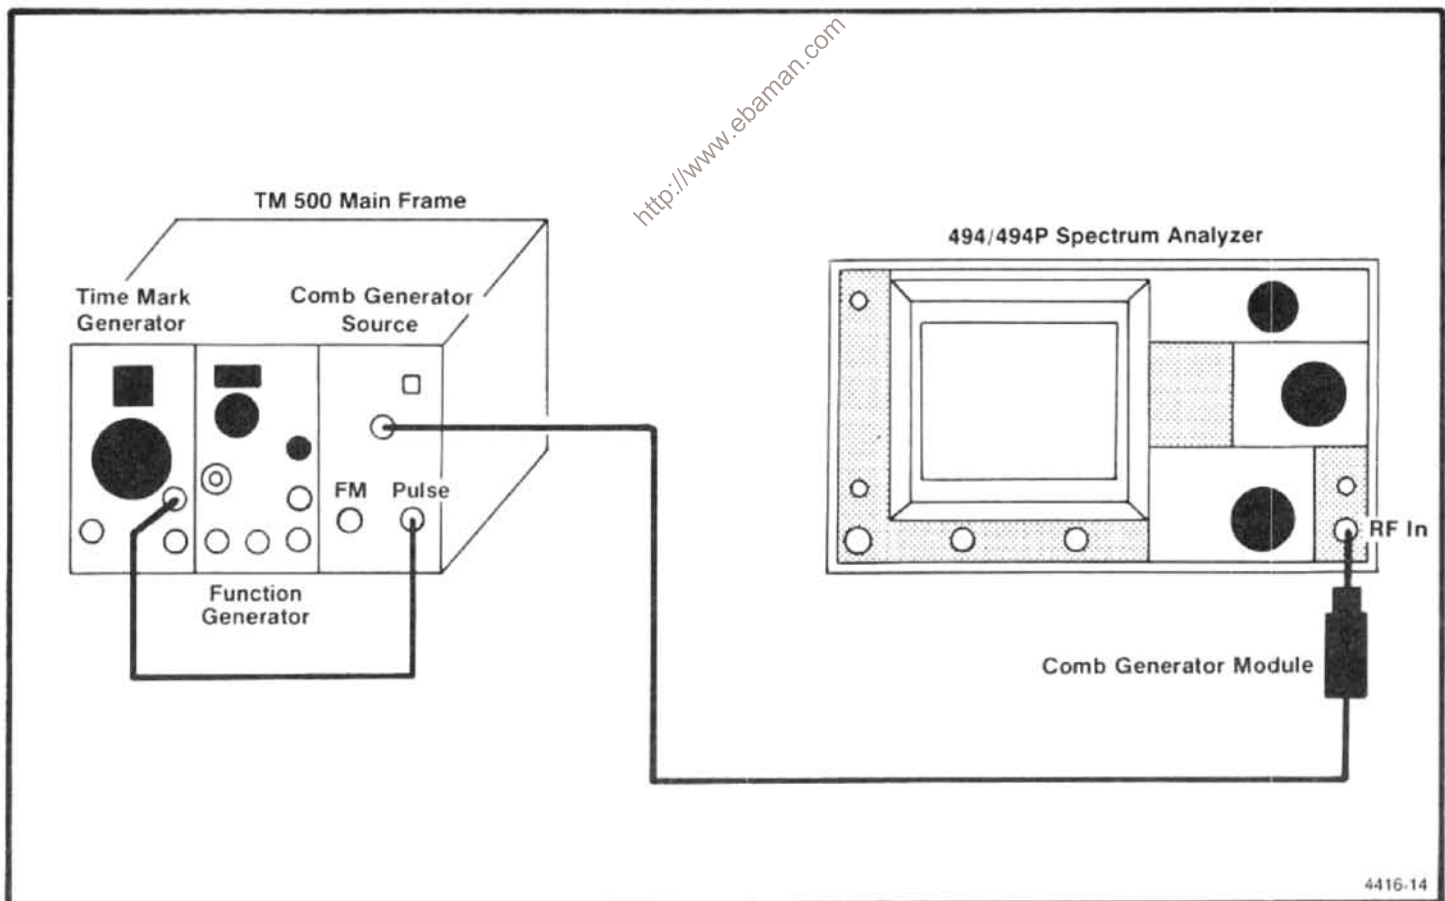

Figure 4-5. Test equipment setup for checking frequency span/div and sweep time/div accuracy.
a. Equipment setup is shown in Figure 4-5 .
e. Remove the CAL OUT signal to the RF INPUT and apply the output of the Microwave Comb Generator, as shown in Figure 4-5. Set the FREQUENCY to 10 GHz, (band 4, 5.4 to 18 GHz) FREQ SPAN/DIV to 500 MHz, RESOLUTION BANDWIDTH to 100 kHz, and REF LEVEL to -10 dBm. Peak the response with the MANUAL PEAK control and adjust REF LEVEL for the best marker definition. It may also help to adjust the CENTER FREQUENCY for better marker definition.
h. Modulate the Comb Generator signal with 10 μs markers, from the Time Mark Generator, by applying the Marker Output to the Pulse Input of the Comb Generator as shown in Figure 4-5. Adjust the MANUAL PEAK control for optimum marker definition.